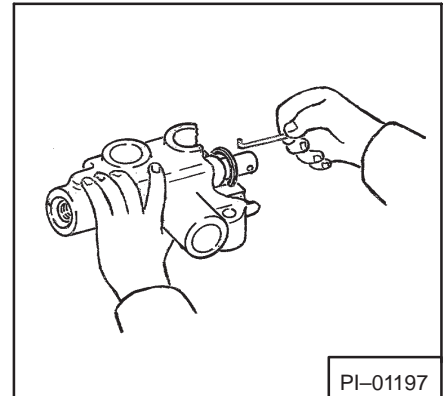

Fig. 4-20 Removing Front Seal
4. Push spool into housing from front of valve until front seal is out, then remove front seal (Fig. 4-20).